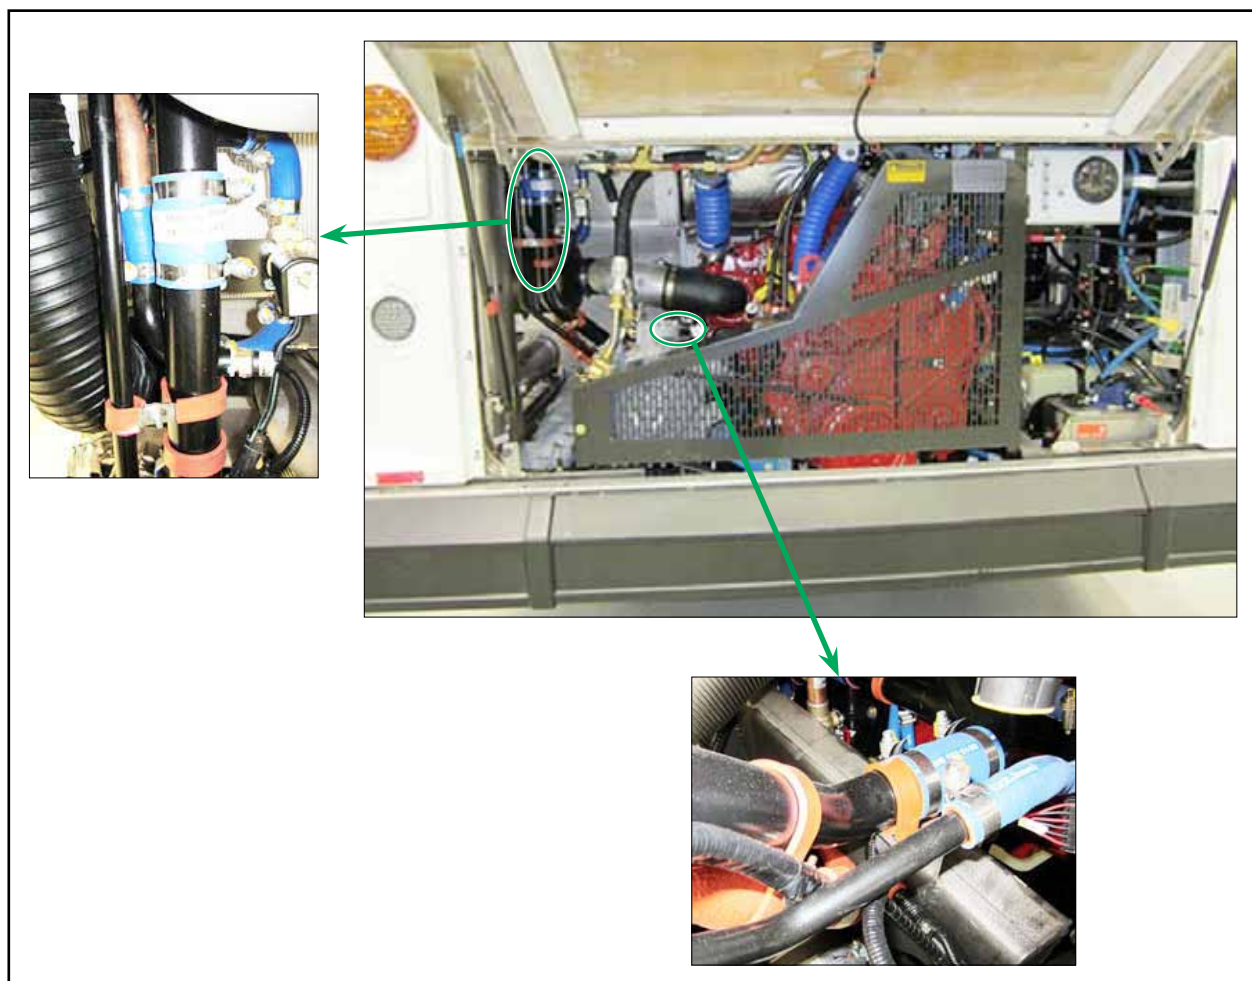

Figure 1 - Location of the Hose to Replace
- 1.3. Locate the streetside refrigerant return hose to remove (see Figure 1).